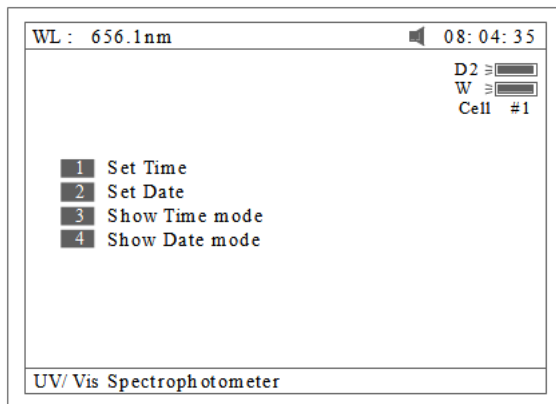
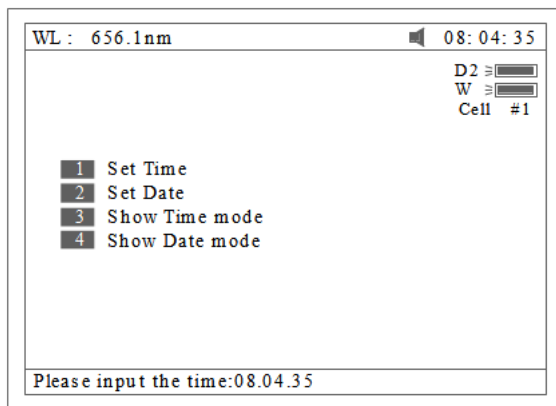
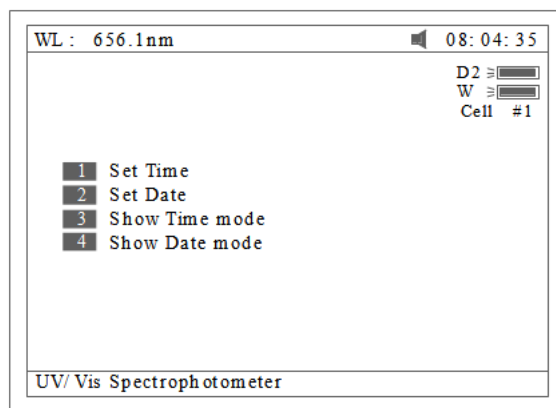

Fig 85
Fig 86
Fig 87
Press **【4】** In Fig73 to set the display mode and modify the clock (Fig 85).
Press **【1】** in Fig 85 to modify time by pressing the numeric keypad (Fig 86).
2. Press **【2】** in Fig 85 to modify date by pressing the numeric keypad.
3. Press **【3】** in Fig 85 to set the date display on the top right corner of the screen.
4. Press **【4】** in Fig 85 to set the time display on the top right corner of the screen (Fig 87).